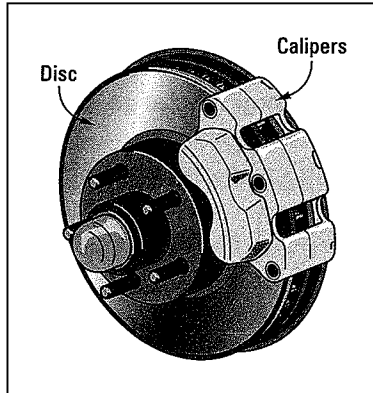

Figure 4-13:
4. The wheel has either a disc brake or a drum brake. To keep it simple, I'll just look at disc brakes here. (Drum brakes work on the same general principles; see Chapter 10.) A disc brake is composed of a flat steel disc (surprise!) sandwiched between a pair of calipers, as shown in Figure 4-13. These calipers contain one or more little pistons that are forced into the disc by the brake fluid.